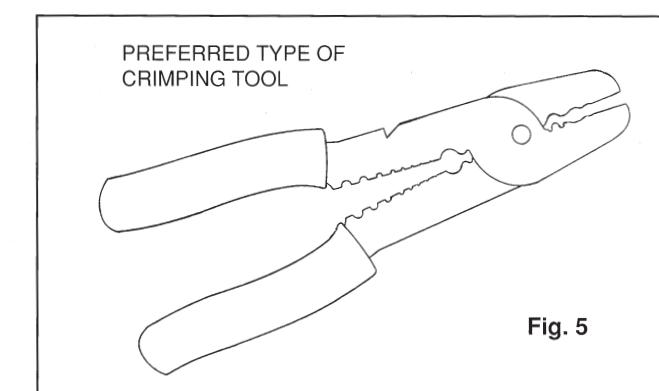

Fig. 5
E) Install the new terminals onto the wiring if the originals were clipped off. The large terminal is the positive terminal, while the small one is the negative terminal. Verify that you are installing them properly because if they are reversed the pump will run backwards and will not pump. Strip the wire insulation back 1/4" and install the terminals. Using the illustrated (Fig. 5) preferred type of crimp tool, crimp the terminals in place. Verify that the terminals are securely attached and will not come off.